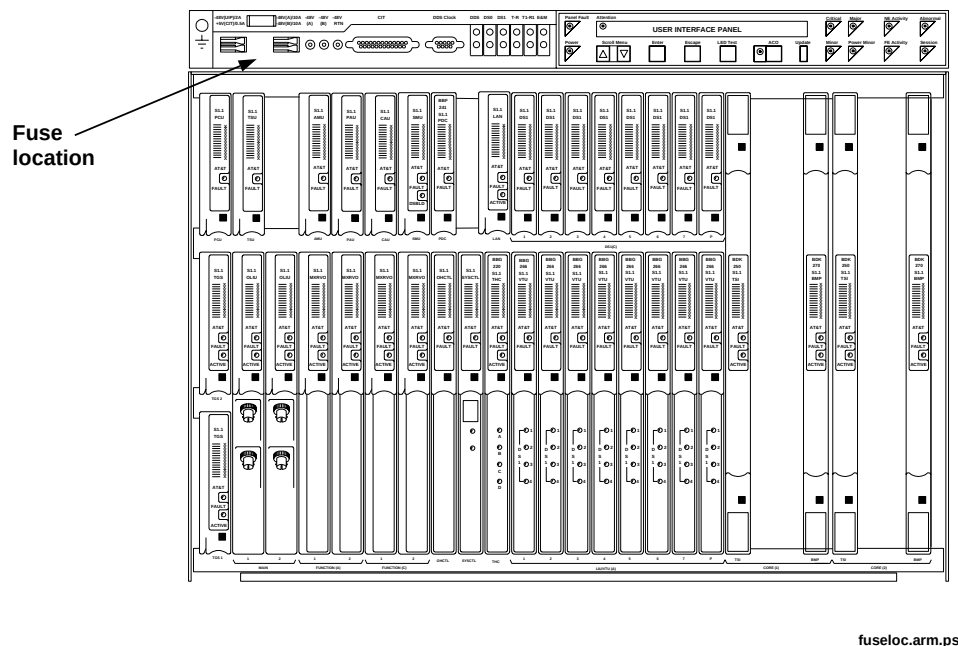

Figure 1 – ARM Shelf and UIP Fuse Location
- ARM shelf behind the UIP cover (Figure 1)